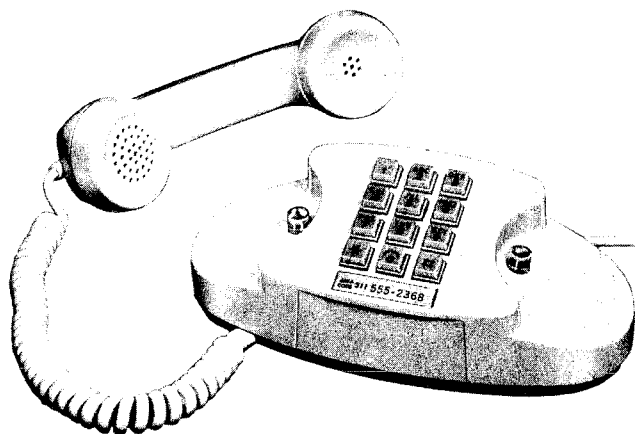

Fig. 1 — 2702B Telephone Set
**1.01** This section covers PRINCESS® telephone sets equipped with 12-button TOUCH-TONE® dials (Fig. 1, 2, and 3).